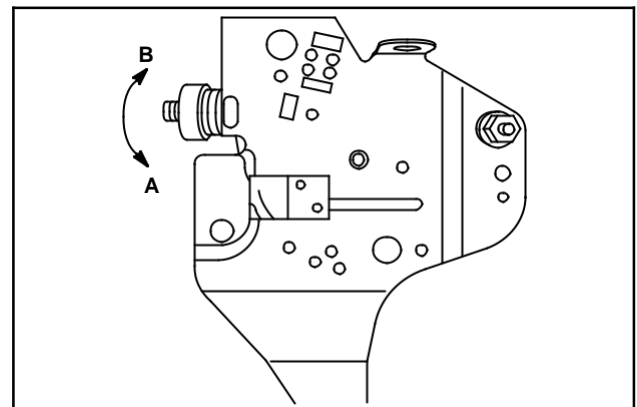

Fig. 68
Turn fixed adjustable as shown – (A) to increase speed, (B) to decrease speed, Fig. 68.